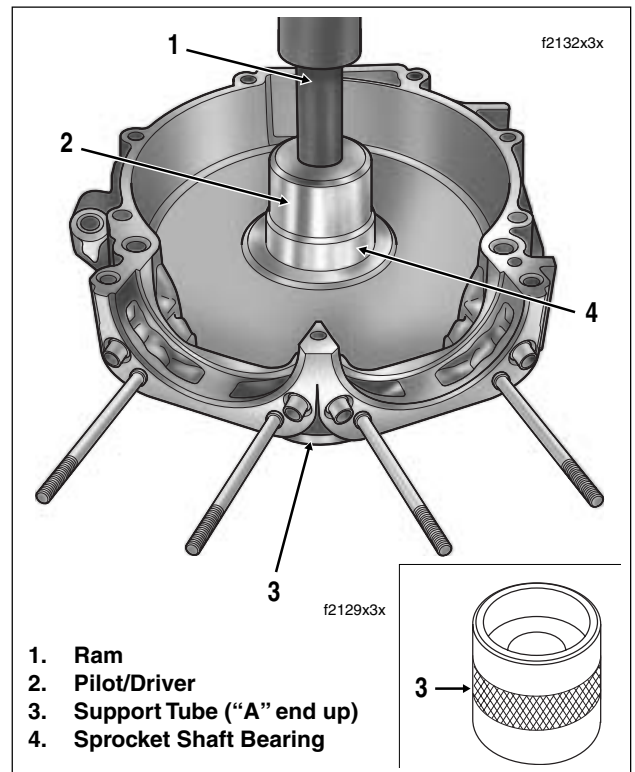

Figure 3-129. Install Sprocket Shaft Bearing
4. See Figure 3-129. Obtain **new** sprocket shaft bearing and apply a thin film of clean engine oil to O.D.